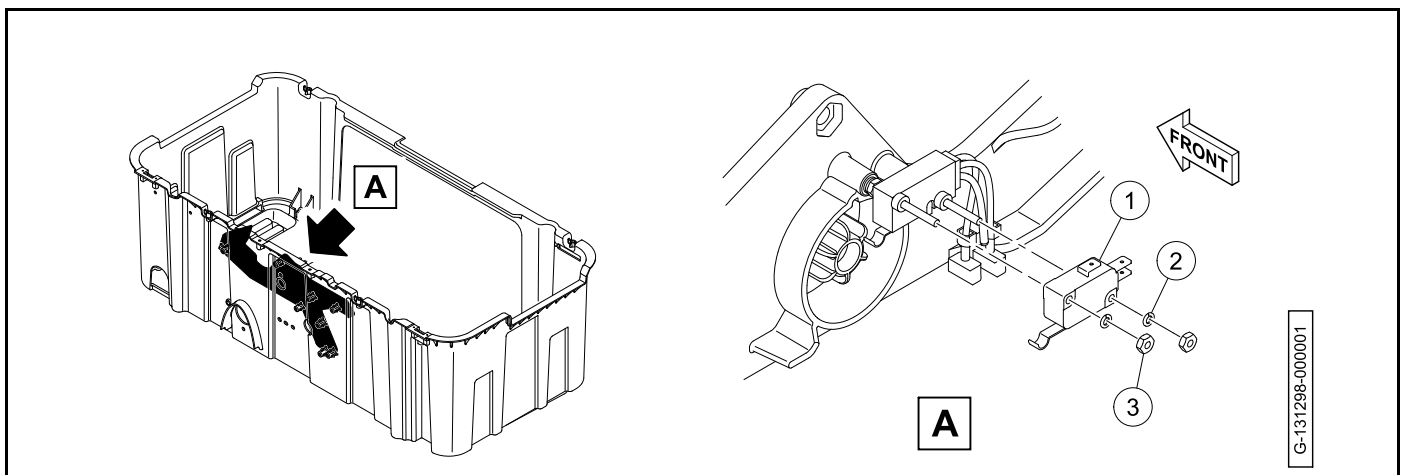

Figure 19-26 Neutral Lockout Limit Switch Removal
3. Disconnect the wires from the neutral lockout limit switch (1) (Figure 19-26, Page 19-25).